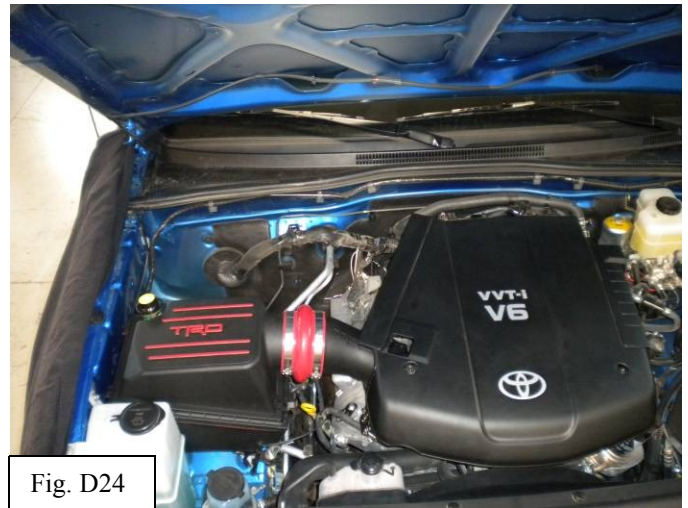

Fig. D24
21. Reinstall the engine cover and secure it with the original M6 nuts that were removed in step C1. (Fig. D24)